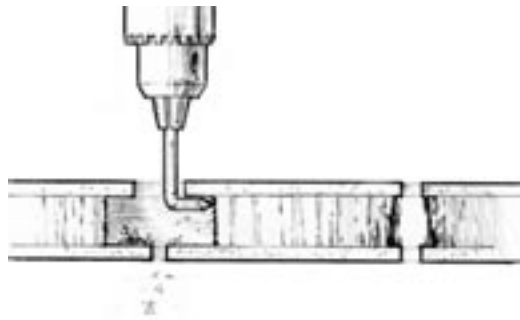

Figure 7-2 Remove about 12mm of core material around the hole with a bent nail or an Allen key chucked into a drill motor.
2. Clean out the fastener holes and remove a portion of the core around the hole. Redrill holes with an over-sized bit or enlarge holes with a round file to increase the bonding area. Drill through the outer skin and core only. Remove about 12mm. of core material around the hole with a bent nail or an Allen key chucked into a drill motor (*Figure 7-2*). The spinning nail or Allen key will pulverize the core material without damaging the skins, provided care is taken.